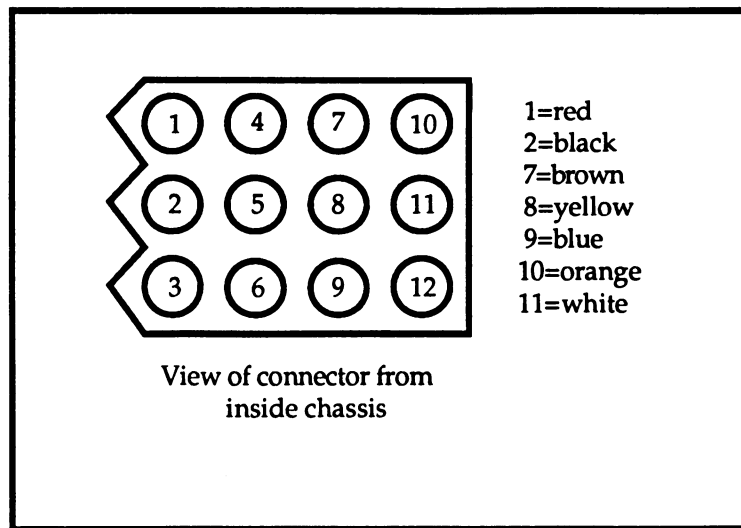

Figure 4-10. Relm Bulkhead Connector Pinout
- []6. Insert the female 0.093-inch sockets from the jumper cable into the 12-position plastic bulkhead connector per the pin numbers shown in Figure 4-10.